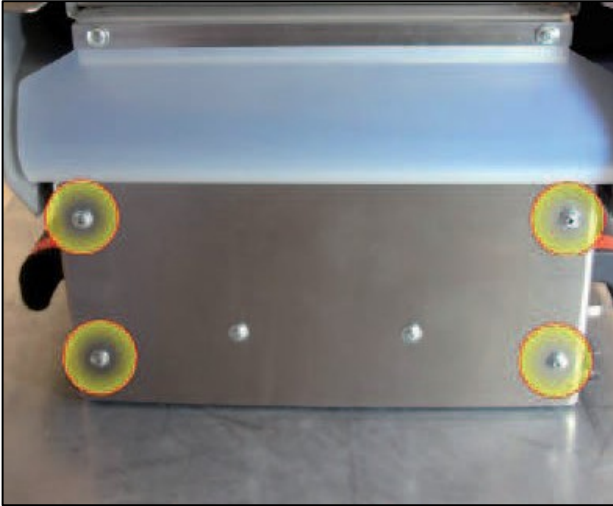
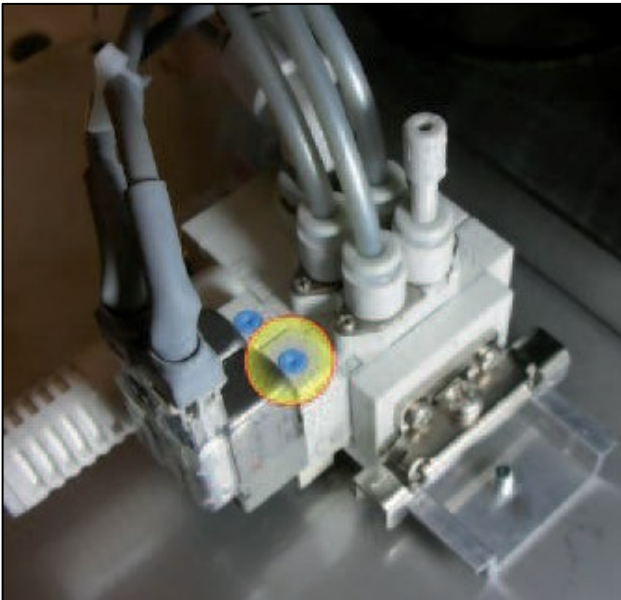

Figure 5-4: AnyFeeder Back Plate
Figure 5-5: Valve Block
3. To check if you achieved the required speed, remove the back plate of the feeder (see Figure 5-4) by loosening the four screws shown in this figure. To actuate the retainer, push the blue valve (see Figure 5-5) with a pen or similar object. For this test the pneumatic line must be connected to the AnyFeeder. Reinstall the back plate.